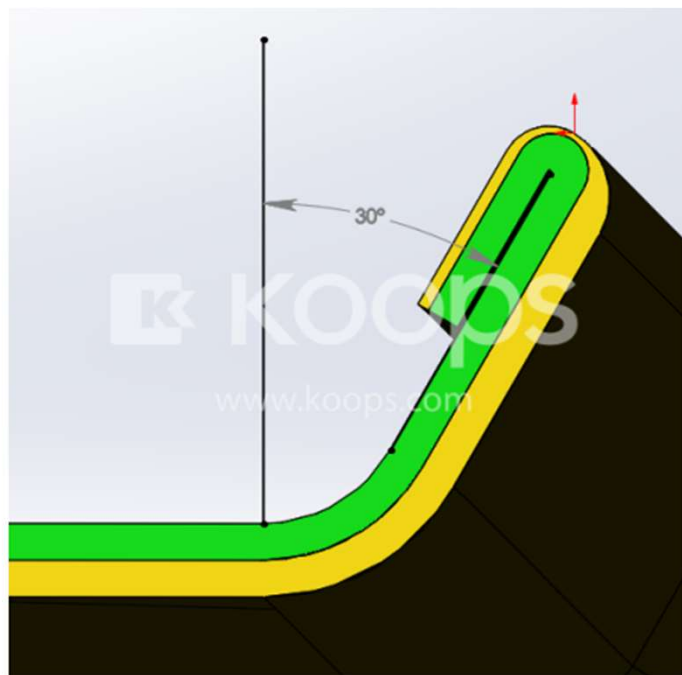

Figure 6 – Representation of Edge Folded Headliner Loft Angle.
- The loft angle of the edge folded flange angle affects feasibility and design decisions. Loft angles of less than 15 degrees from vertical require different tooling and headliner runout, and increase cost (See Figure 6 below)